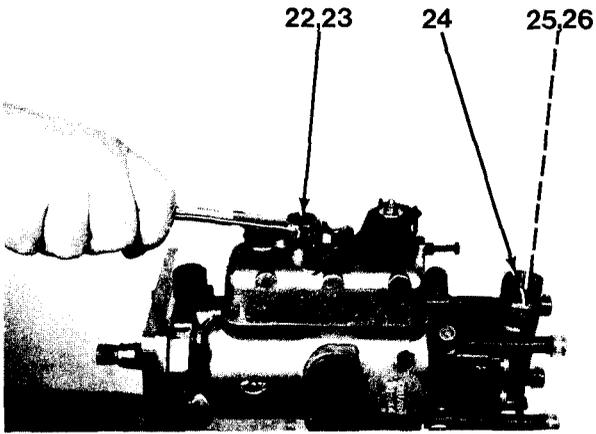
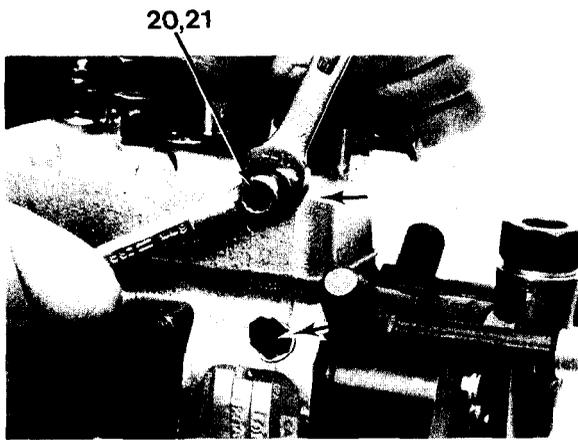

Figure 7-18
Figure 7-17
15. Install filter (26), washer (25) and inlet fitting (24, Figure 7-18). Torque inlet fitting (24) to 38 lb-ft (52 N•m).
16. Install washer (23) and orifice bleed fitting (22). Torque orifice bleed fitting (22) to 15 lb-ft (20 N•m).
17. Install washer (21) and screw assembly (20, Figure 7-17). Torque screw assembly (20) to 40 lb-in. (4.5 N•m).